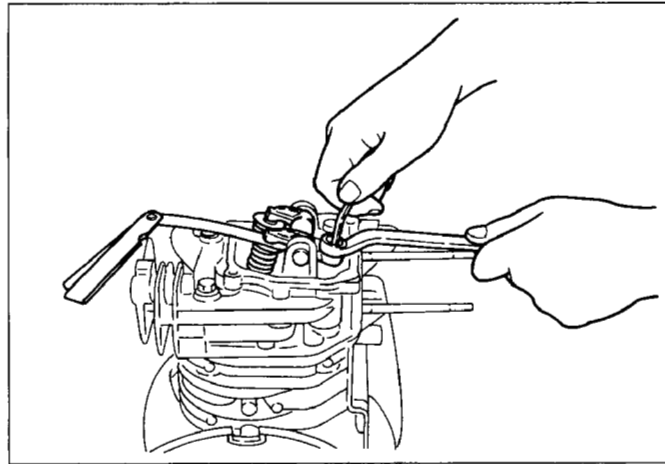

Fig. 5-38
- (2) Loosen the lock nut on the rocker arm and turn the adjusting screw to adjust the clearance between the rocker arm and the valve stem end. (See Fig. 5-38.)